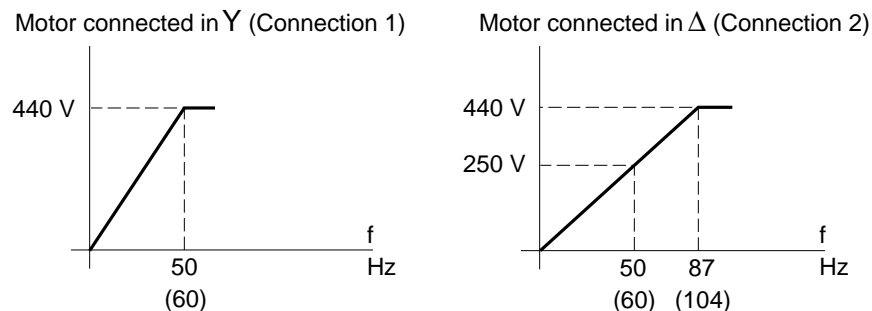

Figure 2-33 Operation at Constant Torque in Overspeed
Operation is possible at constant torque in overspeed as long as the motor is reconnected for the lower voltage configuration and the V/f ratio is adjusted. For example, Figure 2-33 shows the curves for a 460 V drive connected to a 250 (Δ) / 440 V (Y) motor.